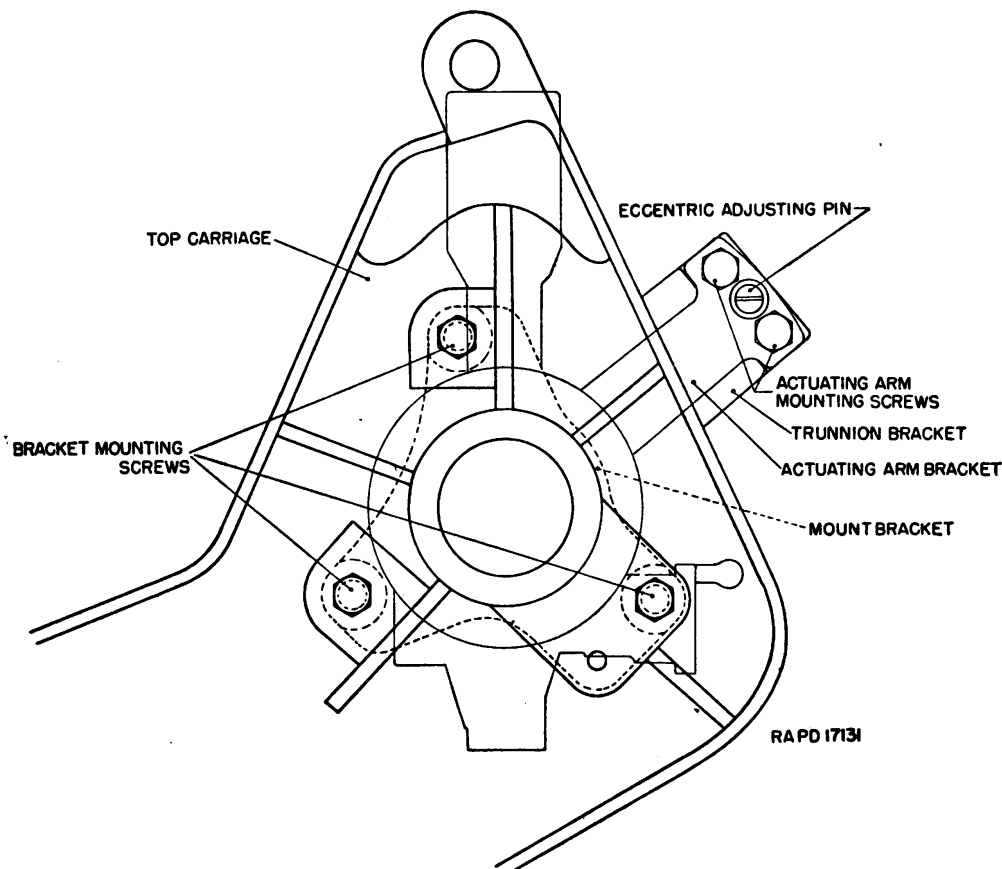

FIGURE 17.—Location of mounting screws in top carriage and trunnion bracket.
**23. Disassembly and assembly.**—*a. To remove telescope mount from gun or howitzer carriage* (fig. 17).—(1) Remove the actuating arm mounting screws which secure the actuating arm bracket to the trunnion bracket. Remove the nuts and washers from the two lower screws in the mount bracket.